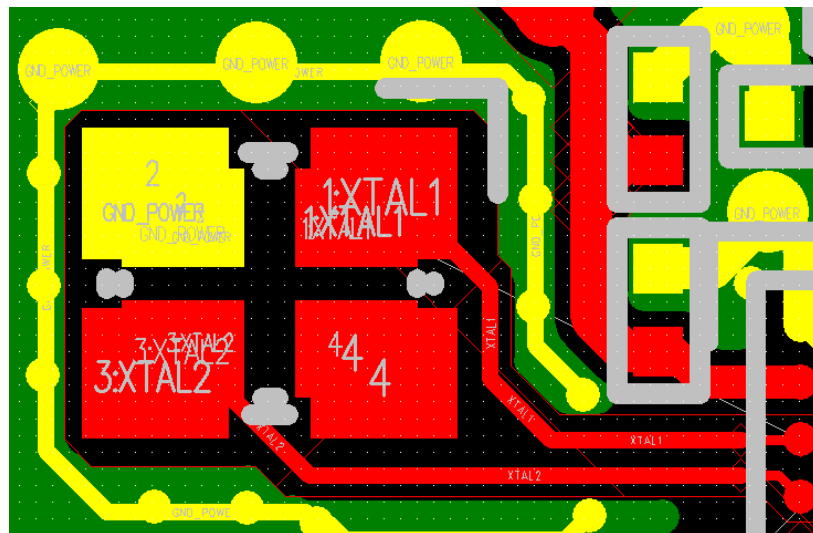

Figure 7. Crystal 26M ground vias of the AB1585/AB1588 EVK daughter board
- Add more GND vias around crystal for good isolation, please refer to Figure 7.